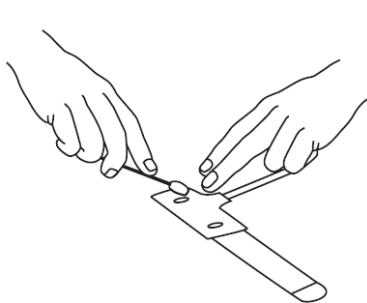

Fig. 1
- 1) For fragile skin, the stickiness of the medical grade adhesive can be diminished or eliminated by daubing the adhesive areas with a cotton ball or with gauze (Refer to Fig. 1).